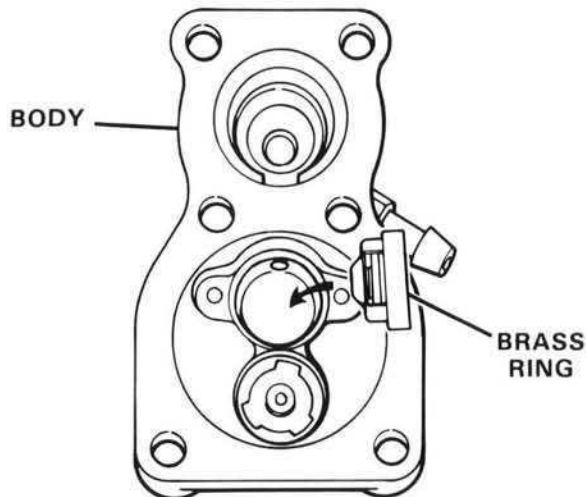

Figure 8. Installing Valve.
- B. Place fuel pump valve gasket on valve seat in fuel pump body. Place valve in cavity, spring end first. Figure 8.
- C. Install two (2) screws and tighten securely.